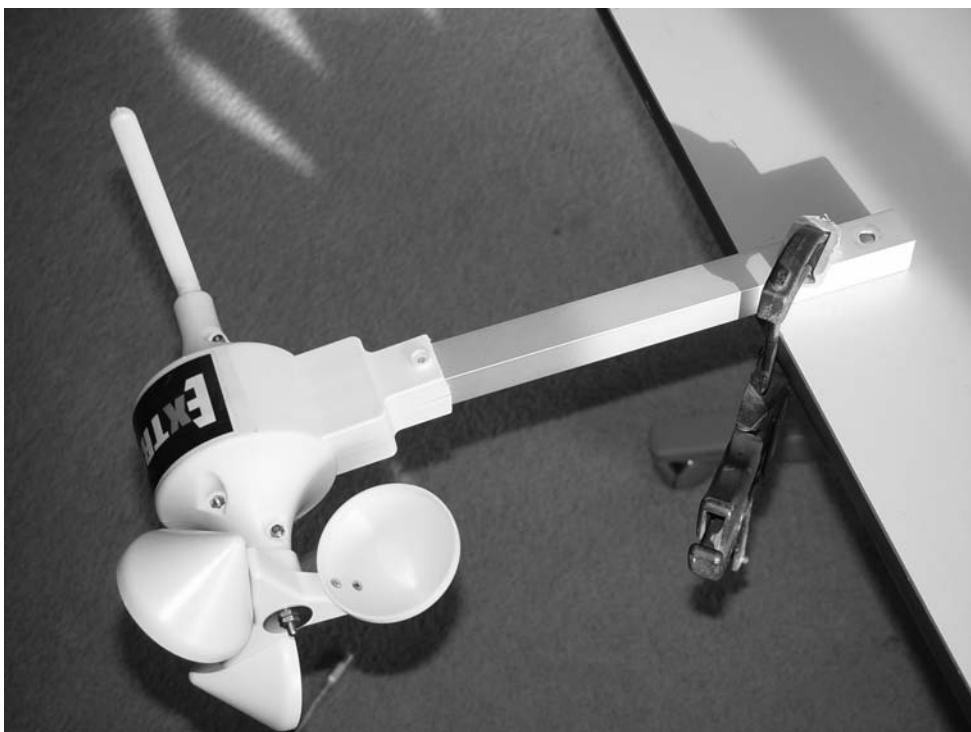

FIGURE 6-8: Preparing to balance the rotors.
2. Orient the wind unit horizontally and clamp the mounting arm to a flat surface as shown in Figure 6-8. Make sure both the wind speed rotor and weather vane can rotate a full 360 degrees.